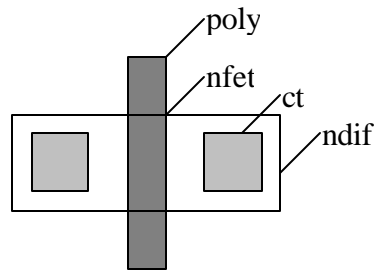

Figure 2a
- a) It is always good to get a feel for design rules in a layout editor. Fire up **max** with the mmi25 (0.25 um) technology file (this is the default setup). Place a minimum sized NMOS transistor and examine the dimensions. The layers are listed and shown below in Figure 2a. Determine and list the following: